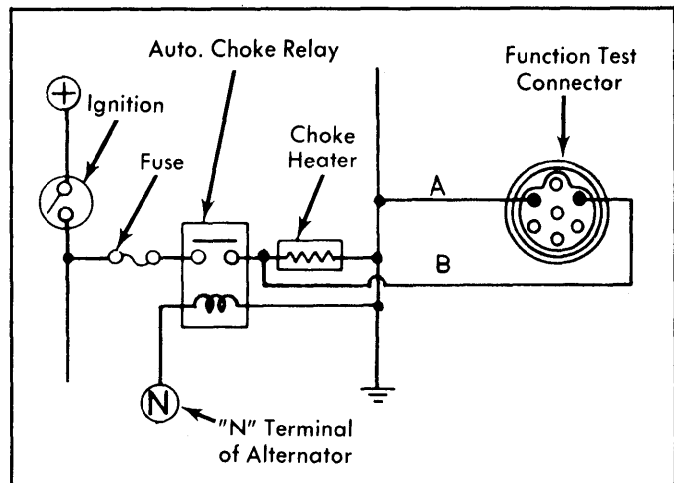

Fig. 3: 1977-78 Electric Assist Choke System
- 2) With ignition off, check continuity between terminals "A" and "B" at function test connector. See Fig. 3. Choke heater system is working properly if continuity exists. If not, check for poor connections or open heater circuit.